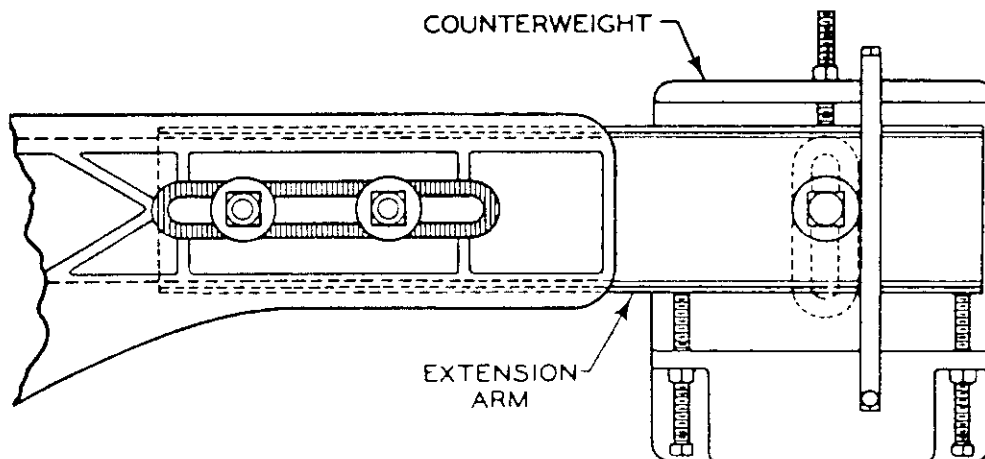

Figure 8. Extension arm for counterweight.
3. If the gate arm is 31 to 40 feet long, assemble the retaining straps as in step 2, and attach the weights to the extensions of grip arms R and L as shown in Figure 8.